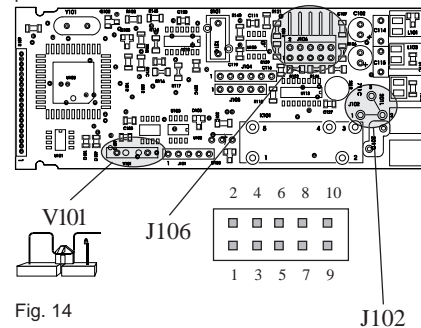

Fig. 14
- 2) Set the dip switch V101 to the open condition (see fig. 14).